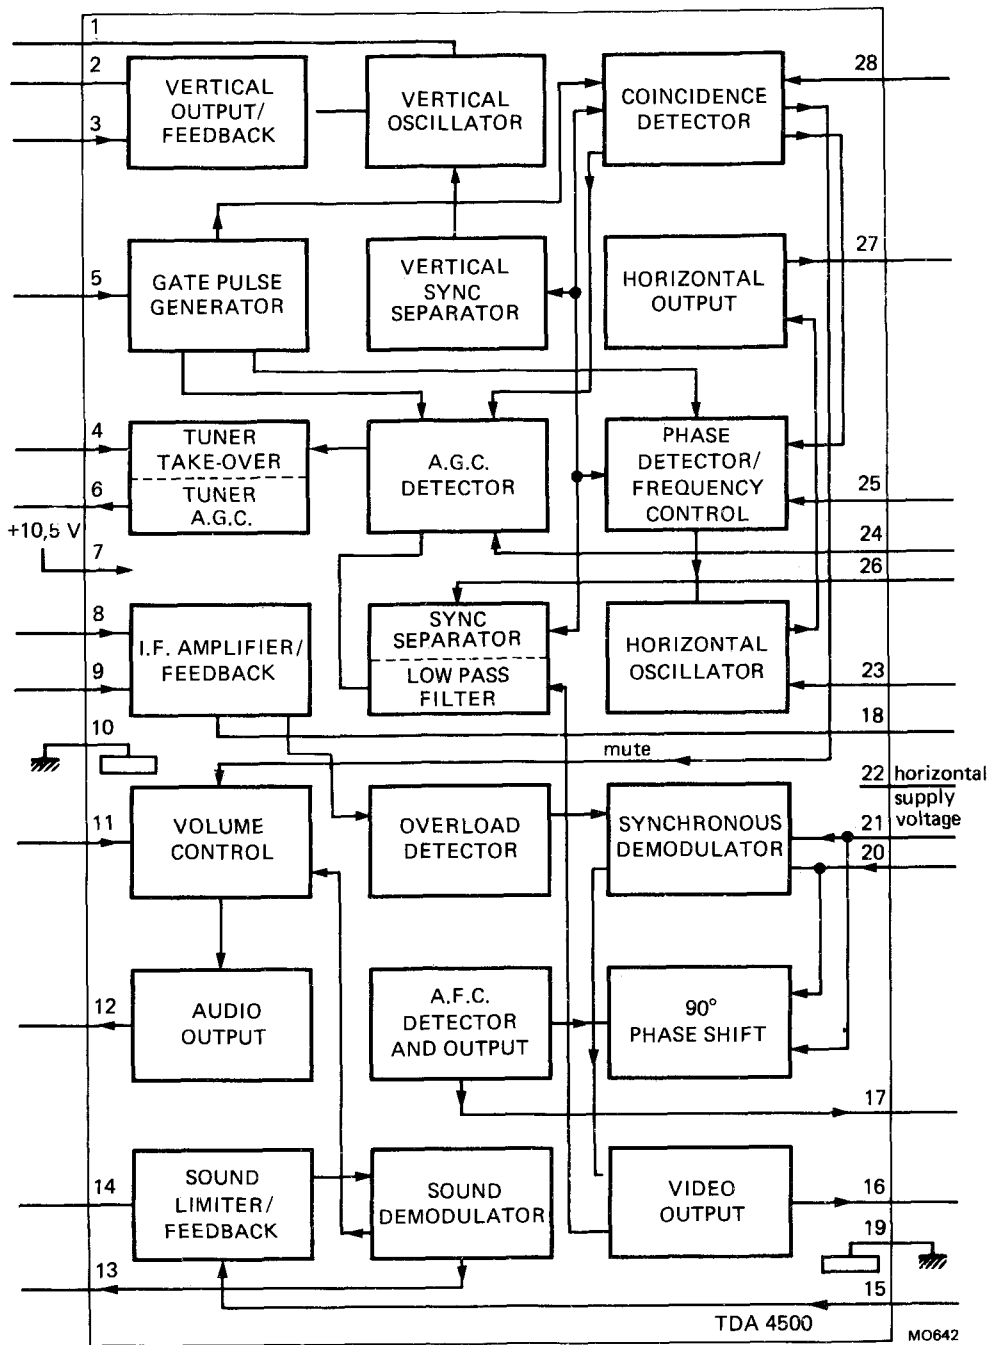

Fig. 1 Block diagram.
**FUNCTIONAL DESCRIPTION (Fig. 1)**
The block diagram (Fig. 1) depicts the various functions which are described briefly below.